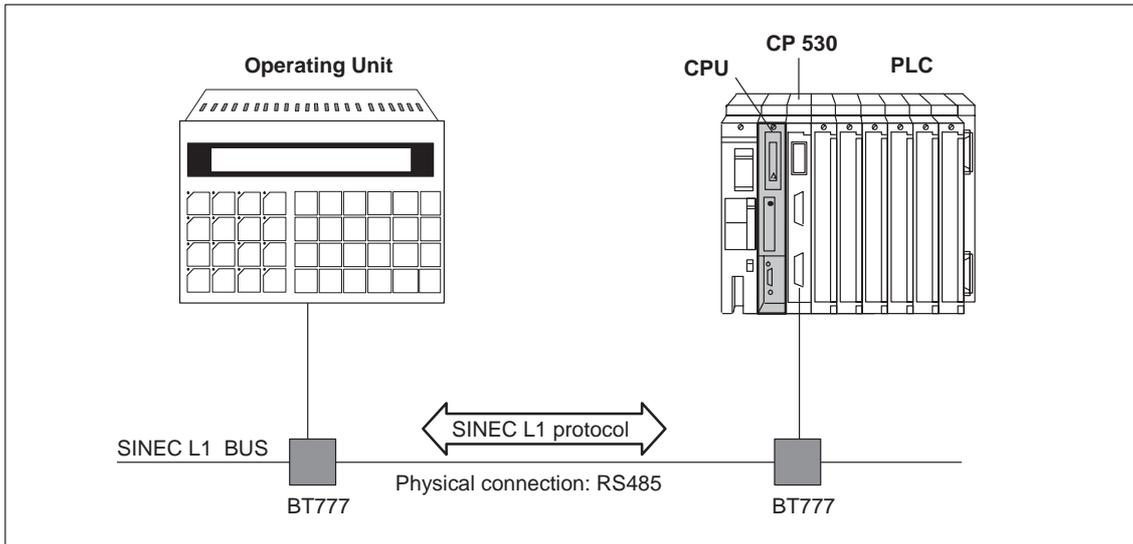

Figure 1-4 SINEC L1 Connection
**Interface** Operating unit types TD10, TD20 and OP20 are connected via the integral serial interface and bus terminal BT777 to the SINEC L1 bus (figure 1-4).